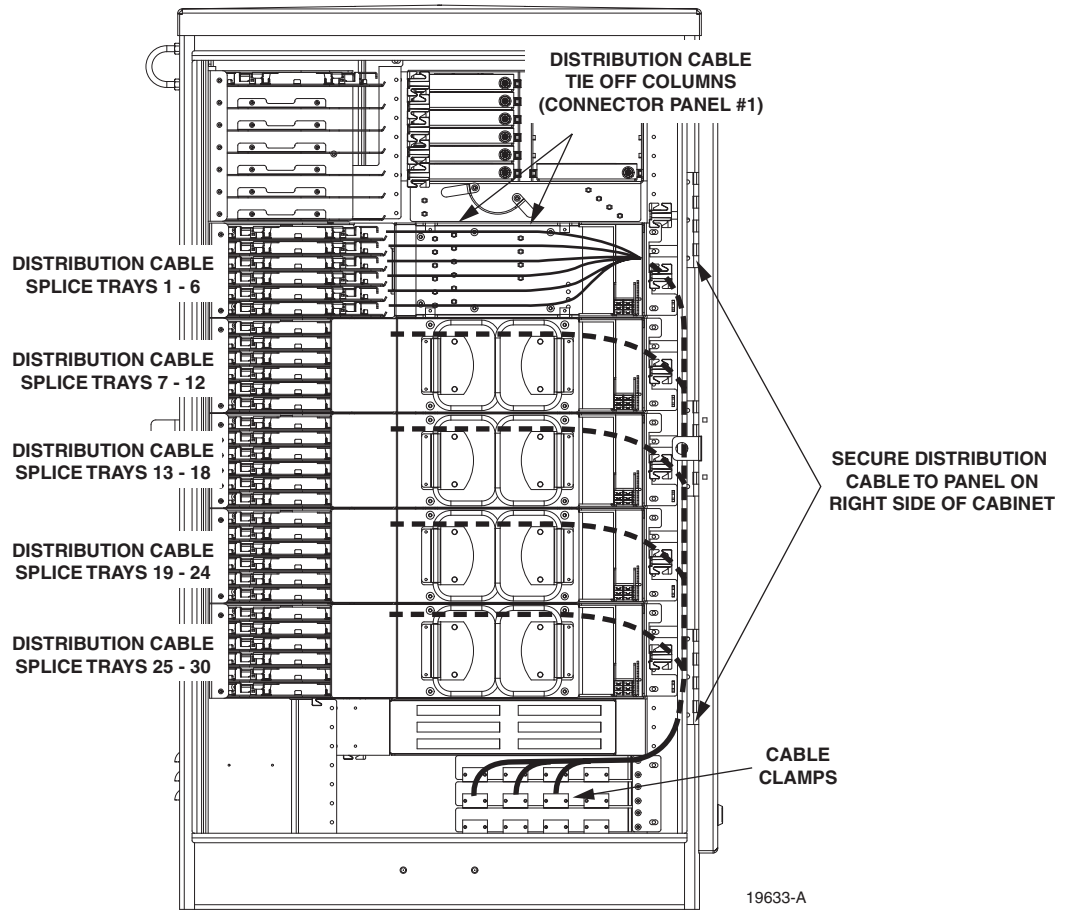

Figure 22. Distribution Cable Fibers Routed to Splice Trays
9. From the cable clamping location, route the first six distribution cable fiber subunits up the right side of the cabinet as shown in Figure 22.
14. Secure each fiber subunit to the back of the connector panel using the tie points indicated in Figure 22.